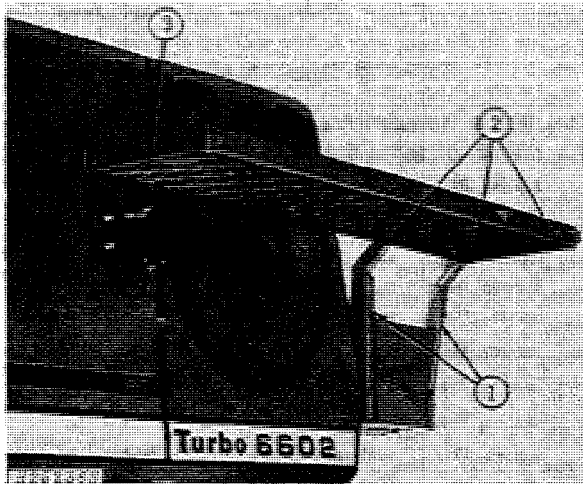

Fig. 2-Installing Catwalk
1. Attach front and rear support angles, with two 3/8 x 1-inch self-locking cap screws and lock nuts (Fig. 2).
2. Set catwalk on support angles and secure with three 3/8 x 1-inch self-locking cap screws and lock nuts (Fig. 2).
3. Secure support bracket on combine to side of catwalk with two 5/16 x 3/4-inch self-locking cap screws (Fig. 2).